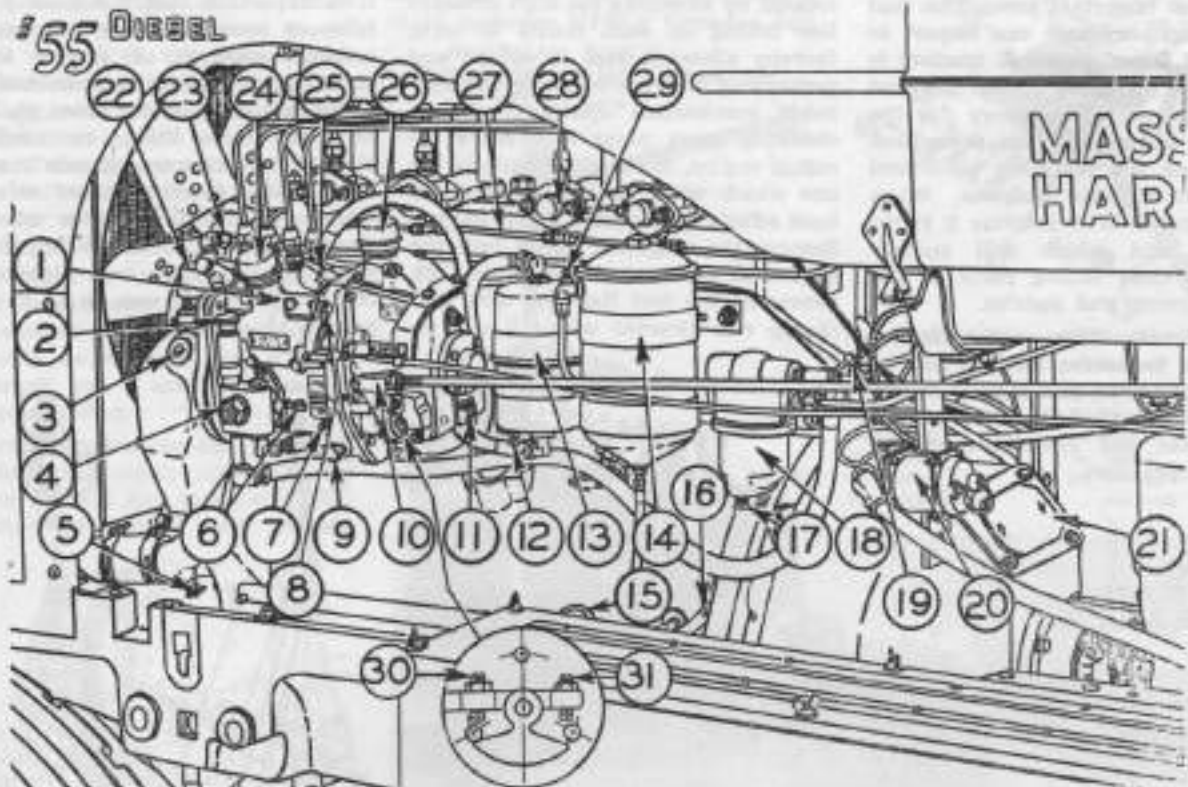
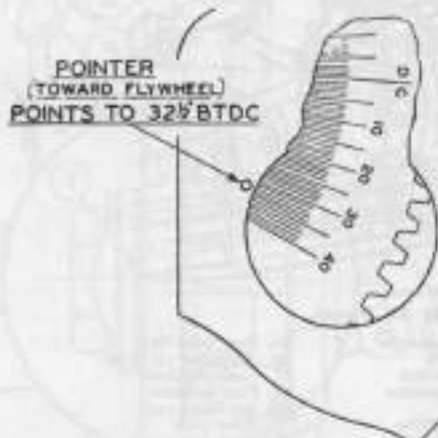
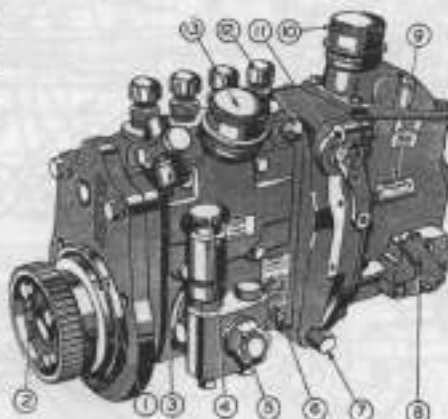

Fig. MH188—Bosch APE pump installation on Massey-Harris model 55 Diesel.
Fig. MH190—Massey-Harris model 55 tractor engine flywheel marks.
Fig. MH192—Three-quarter view of Bosch APE pump as used on Massey-Harris model 55 Diesel.
102. CHECK AND TIME APE PUMP. All APE pumps have the nozzle outlet connections arranged in tandem. To check timing first make sure the fuel cut-off control (8—Fig. MH188) is in the closed position to prevent accidental starting of the engine. Remove small cover from flywheel inspection port (16) on side of engine and the external plug from the number one cylinder energy cell as
Rotate crankshaft until air is felt escaping from the energy cell opening then slowly until the flywheel mark indicating 32 degrees before top center is aligned with the pointer pin as shown in Fig. MH190. On some engines this point on the flywheel is stamped "INJ". Remove ¼ inch pipe plug (3—Fig. MH188) from pump to timing gear case adapter and note whether the line mark on front flange of pump is registered with a similar mark on the pump drive hub as shown at (1) in Fig. MH192. If marks do not align as shown, the timing is incorrect.
flywheel mark indicating 32 degrees before top center is aligned with the pointer pin as shown in Fig. MH190. On some engines this point on the flywheel is stamped "INJ". Remove $\frac{1}{4}$ inch pipe plug from pump to timing gear case adapter. At this time the line mark (7—Fig. MH185) on the pump drive hub should be in register with the pointer (6) extending from the front face of the pump. The "O" mark in the pump window should also be within $\frac{3}{8}$ inch of being in register with the line mark (4) machined on the apex of one of the teeth in the plunger drive gear as shown. Latest PSB pumps do not have the "PC" mark shown. If marks do not align as mentioned the timing is incorrect.
111. **ADJUST GOVERNOR STOPS.** Governor should produce the speeds listed below. To reset governor, first correlation mark the governor throttle arm (10—Fig. MH188) on injection pump and the shaft to which it is attached, so as to assure correct reassembly. Remove the three screws and the two piece cover. Adjust screws (30) and (31) until recommended low and high idle speeds are obtained. Install a new seal when adjustment is completed.